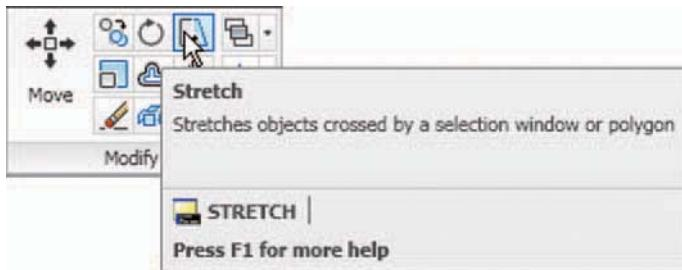

Fig. 5.33 The Stretch tool icon from the Home/Modify panel
2. Call the **Stretch** tool – either *click* on its tool icon in the **Home/Modify** panel (Fig. 5.33), *left-click* on its tool icon in the **Modify** toolbar, *pick* its name in the **Modify** drop-down menu, or *enter s* or **stretch** at the command line, which shows:
1. When circles are windowed with the crossing window no stretching can take place. This is why, in the case of the first example in Fig. 5.33, when the **second point of displacement** was picked, there was no result – the outline did not stretch.